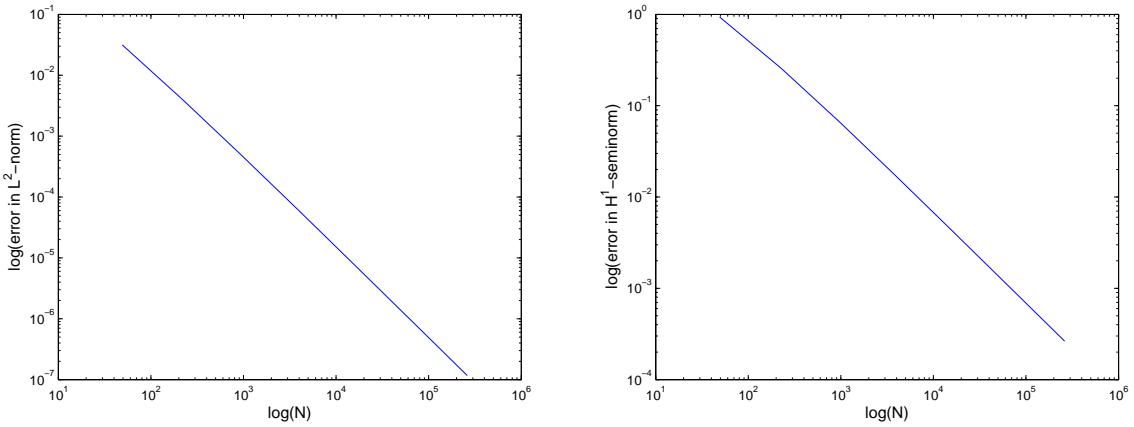

Figure 3.6: Convergence plots for subproblem (3.2k).
**Solution:** See Listing 3.27 for the code and Fig.3.6 for the convergence plots. The convergence rates that we get are 1.4623 for the  $L^2$ -norm and 0.9593 for the  $H^1$ -seminorm. These rates are with respect to the number of degrees of freedom; they correspond to rates of respectively 2.92 and 1.92 with respect to the meshwidth  $h$ .